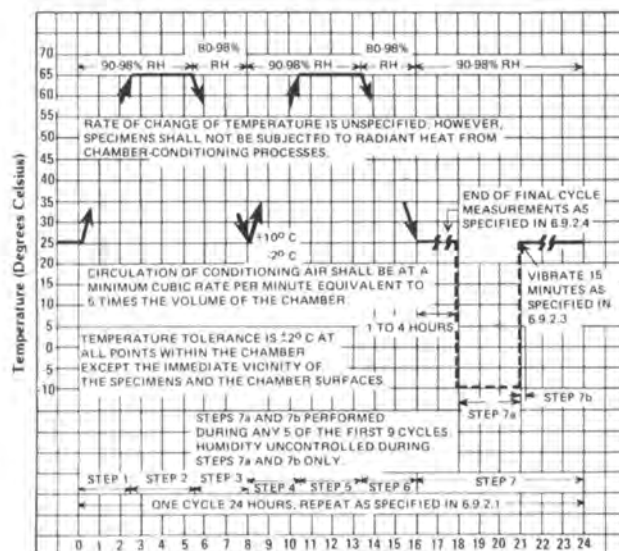

Figure 2
6.9.2.1 Cycles — Ten cycles shall be performed as specified in Figure 2.